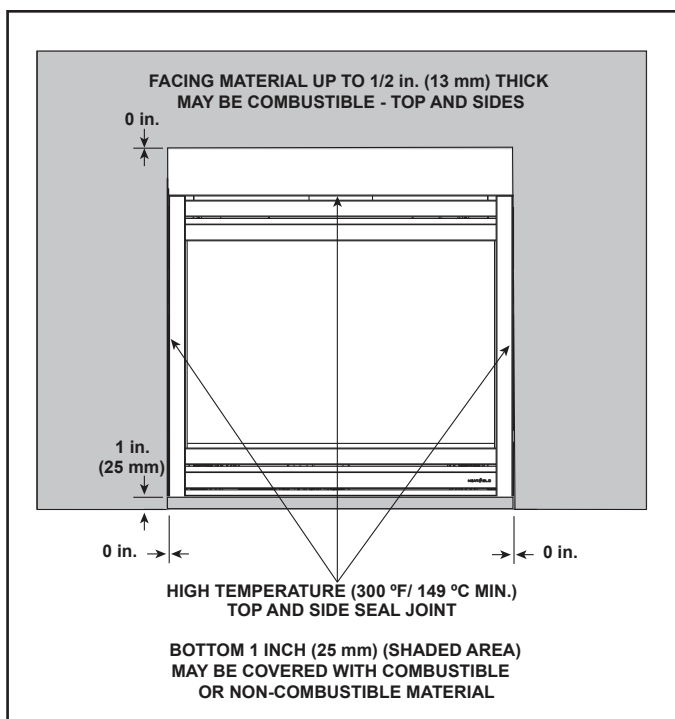

Figure 10.1 Facing Materials
- Seal joints between the finished wall and appliance top and sides using a 300 °F (149 °F) minimum sealant. Refer to Figure 10.1.